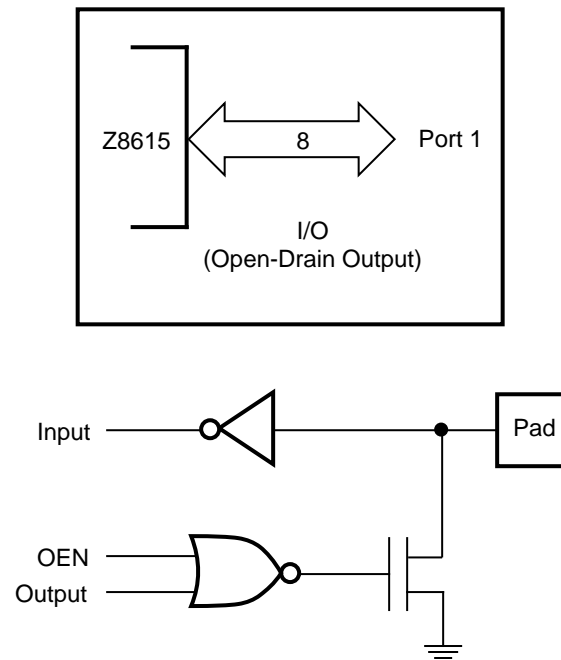

**Figure 5. Port 0 Configuration**
**Port 0** (P07-P00). Port 0 is an 8-bit, nibble programmable, bi-directional, NMOS compatible I/O port. These eight I/O lines can be configured under software control as a nibble input port, or as a nibble open-drain output port. When used as an I/O port, inputs are standard NMOS (Figure 5). Port P03-P00 has 10.4 Kohms ( $\pm 35\%$ ) pull-up resistors when configured as inputs.